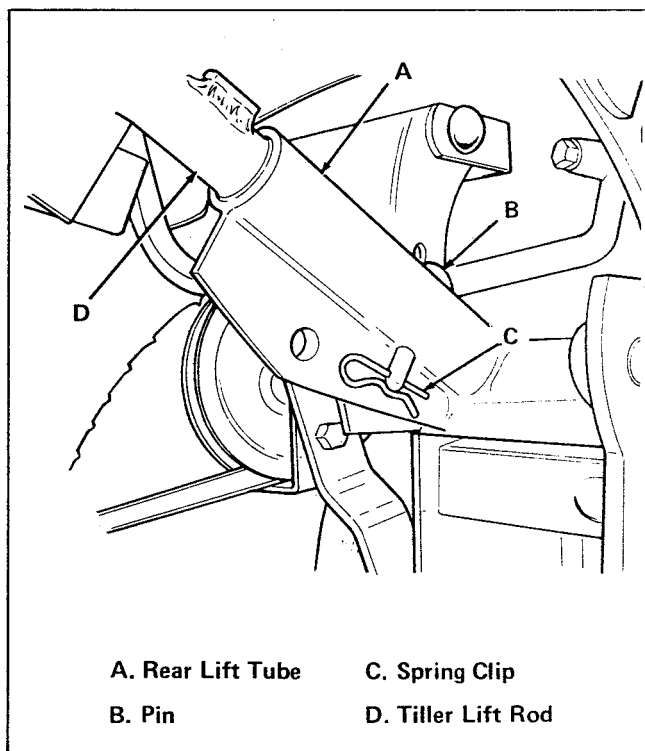

Figure 2. Install Lift Rod in Lift Tube
4. Coat tiller lift rod (item D, figure 2) with thin film of general purpose grease. Tilt rotary tiller forward, inserting tiller lift rod into rear lift tube (item A). These items should fit together easily. If not, slide or rotate tiller slightly to align the two parts.
7. Remove spring clip and pin (items C and B, figure 2). Tilt upper part of rotary tiller rearward to remove tiller lift rod (item D) from rear lift tube. To prevent loss, reinstall pin and spring clip in hole of tiller lift rod.